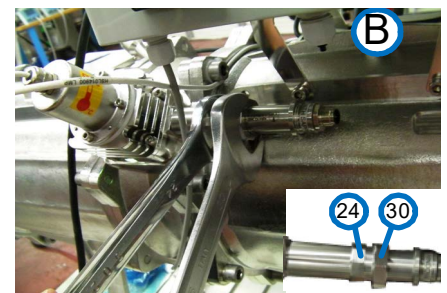

Figure 10-26: Loosening nuts B (Generic View)
- Step 2.** Grip the Sensor casing with wrenches # 24 and # 30, as shown in view B, **Figure 10-26**. The inset shows the wrench #24 in the left hand gripping the casing's left band and wrench #30 in the right hand gripping the casing's large nut on the right.